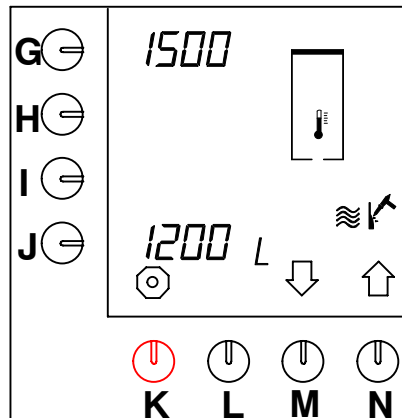

Fig. 27 Descaling counter hot water system
- The descaling counter appears on the display (fig.27 ).